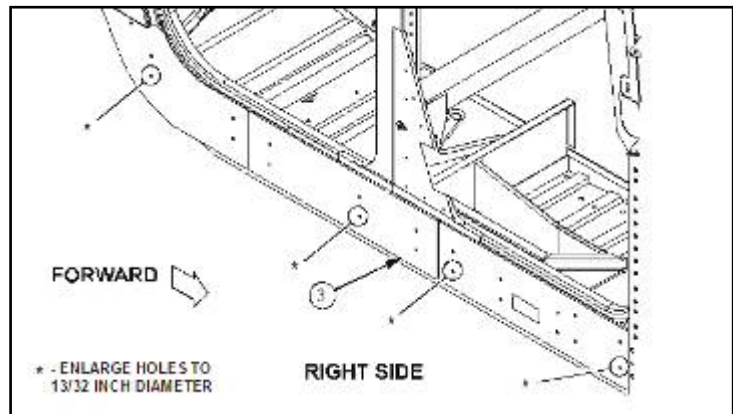

Figure 10b.
6. Remove C-clamp (5) and mag drill (4), and repeat procedure for three remaining specified holes in left side rocker panel armor (2), and four specified holes in right side rocker panel armor (3). Refer to figure 10b.